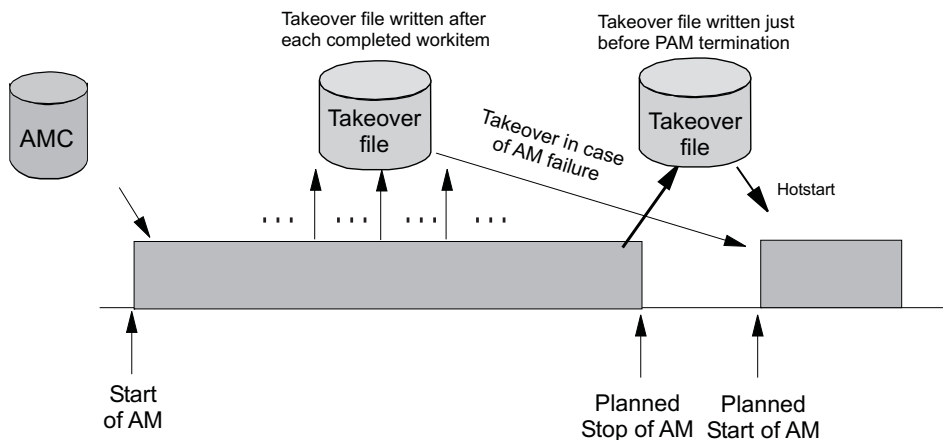

Figure 6. Using Only the Takeover File for Status Backup
Figure 6 on page 54 illustrates the timeline from the start of the automation manager (AM) through to its termination for the following cases: